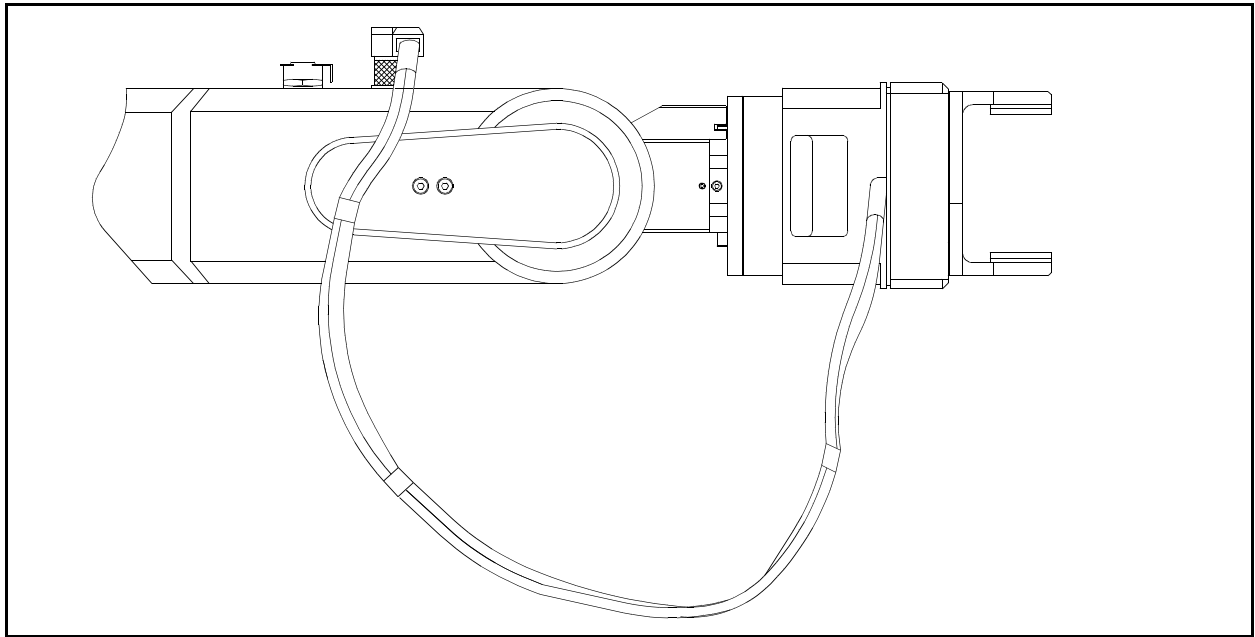

Figure 4: Connecting Gripper Cable to SCORBOT-ER IX
7. Make sure the gripper cable is positioned as shown in Figure 4.
*At the end of each work session (before turning off the controller), or before homing the robot, make sure the gripper's position is as shown in Figure 4.*